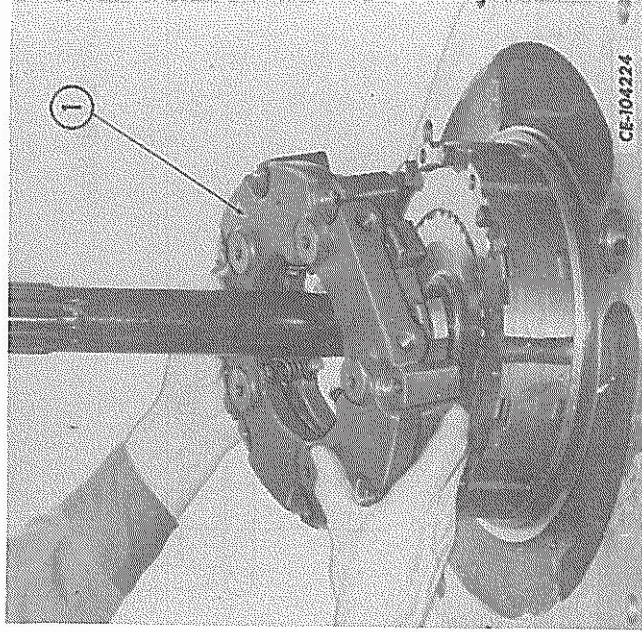

FIG. 56 — Removing the Brake Actuator Assembly
2. Remove the capscrews securing the actuator pressure plate (1, Fig. 56) to the carrier. Lift the brake actuator assembly from the pinion shaft.
5. Position the actuator assembly over the sprocket drive pinion shaft and secure the pressure plate (1, Fig. 56) to the sprocket drive carrier using 50-53 N.m (37-39 lbf ft) torque.